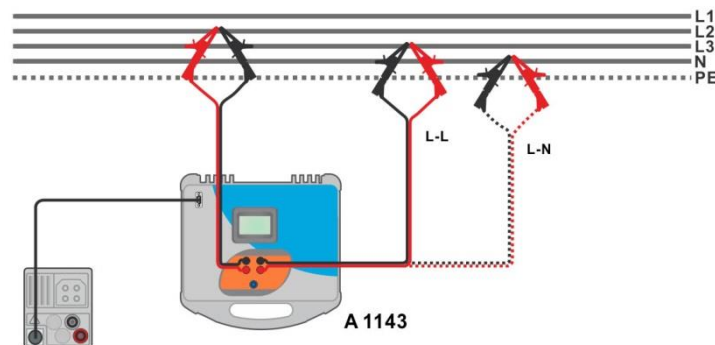

Figure 7.42: Phase-neutral or phase-phase high precision Line impedance measurement – Connection of A 1143
- › Connect test leads to the object under test, see **Figure 7.42**.